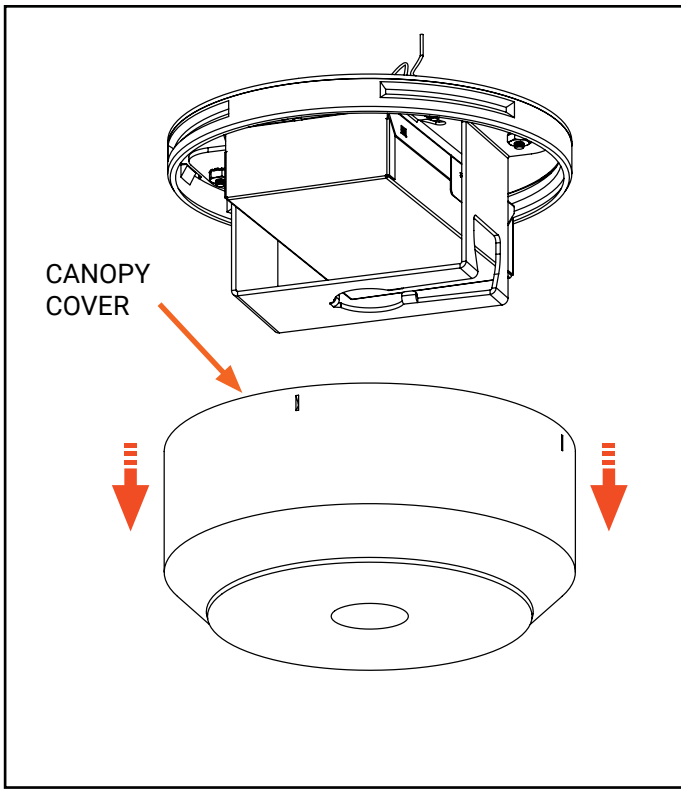

Figure 3
3. Take out the **Canopy Cover (H)** by pulling down. (Figure 3)